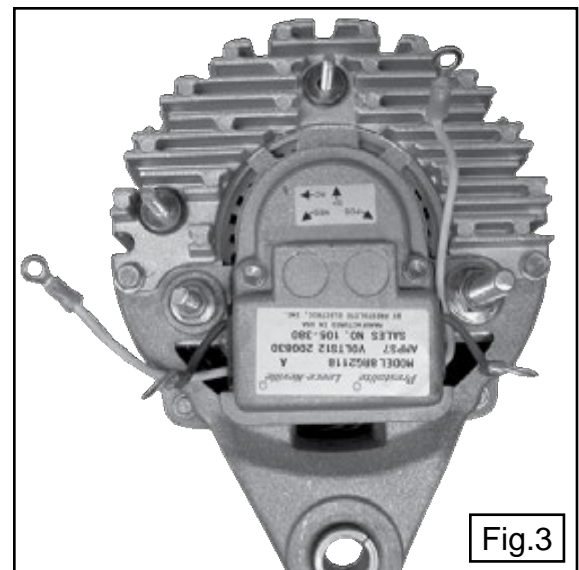

Fig. 3
Step 2: Remove red, black and yellow regulator wires from alternator positive, negative, AC and D+ posts. (Fig. 3)